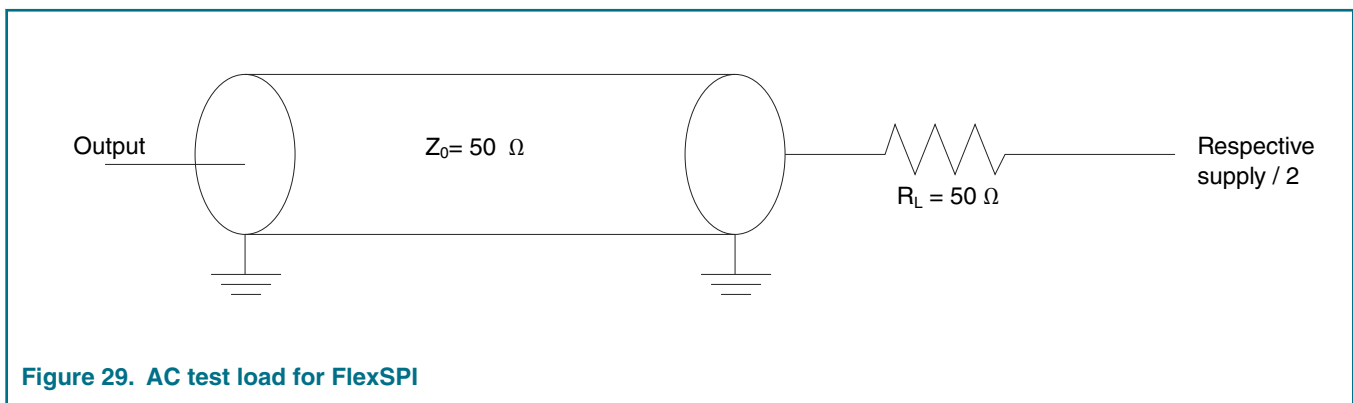
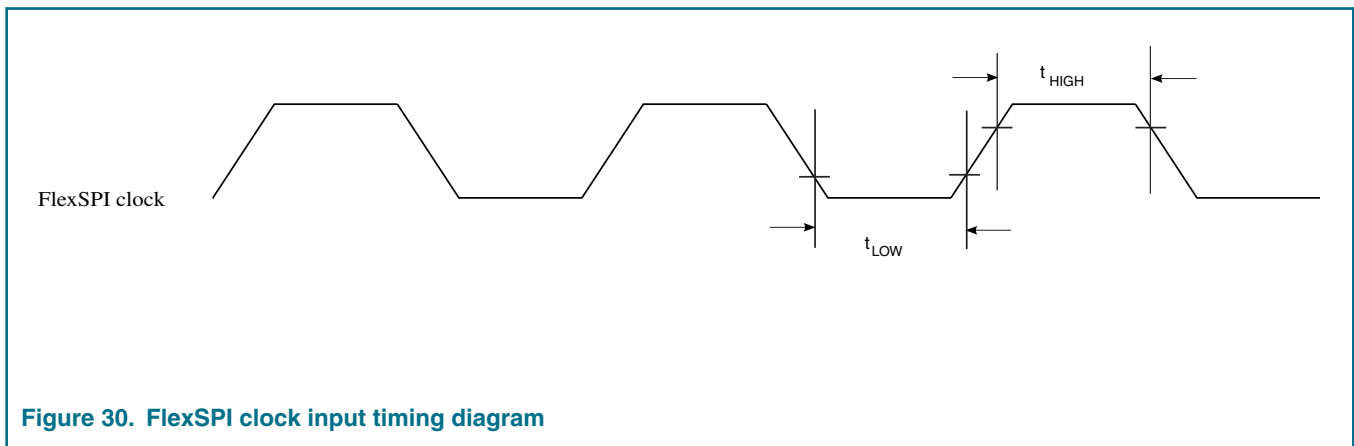

Figure 29. AC test load for FlexSPI
Figure 30. FlexSPI clock input timing diagram
2. See Figure 29. on page 110.
3. See Figure 30. on page 111.
1. Refer Flash Control Register 1 (FLSHxyCR1) in QorIQ LS1028ARM for more details, where x: A or B, y: 1 or 2. 2. See Figure 29 . on page 110. 3. See Figure 30 . on page 111. 4. See Figure 31 . on page 111.
1. Refer Flash Control Register 1 (FLSHxyCR1) in QorIQ LS1028ARM for more details, where x: A or B, y: 1 or 2. 2. For DDR, Unit Interval (UI) is half of period. For example, 5 ns for 100 MHz 3. See Figure 29 . on page 110. 4. See Figure 30 . on page 111. 5. See Figure 32 . on page 112.